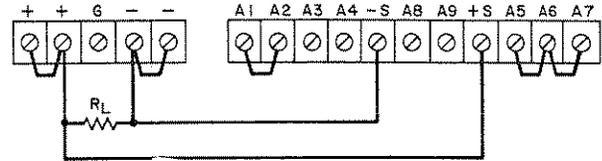

Figure 3-3.
a. Turn-off power supply and arrange rear terminal strapping pattern as shown in figure 3-3. The sensing wires will carry less than 10 ma and need not be as heavy as the load wires. It is recommended that sensing and load wires be twisted and shielded. (If shield is used, connect one end to power supply negative terminal and leave the other end unconnected.)
On Figure 3-3, the +S terminal on the right hand terminal board should be connected to the + side of the load. Delete present connection from + (A9) terminal to this point.
In Figure 3-3, remove the lead connected from the load to (+) on the right hand terminal strip and connect it instead to (+S).